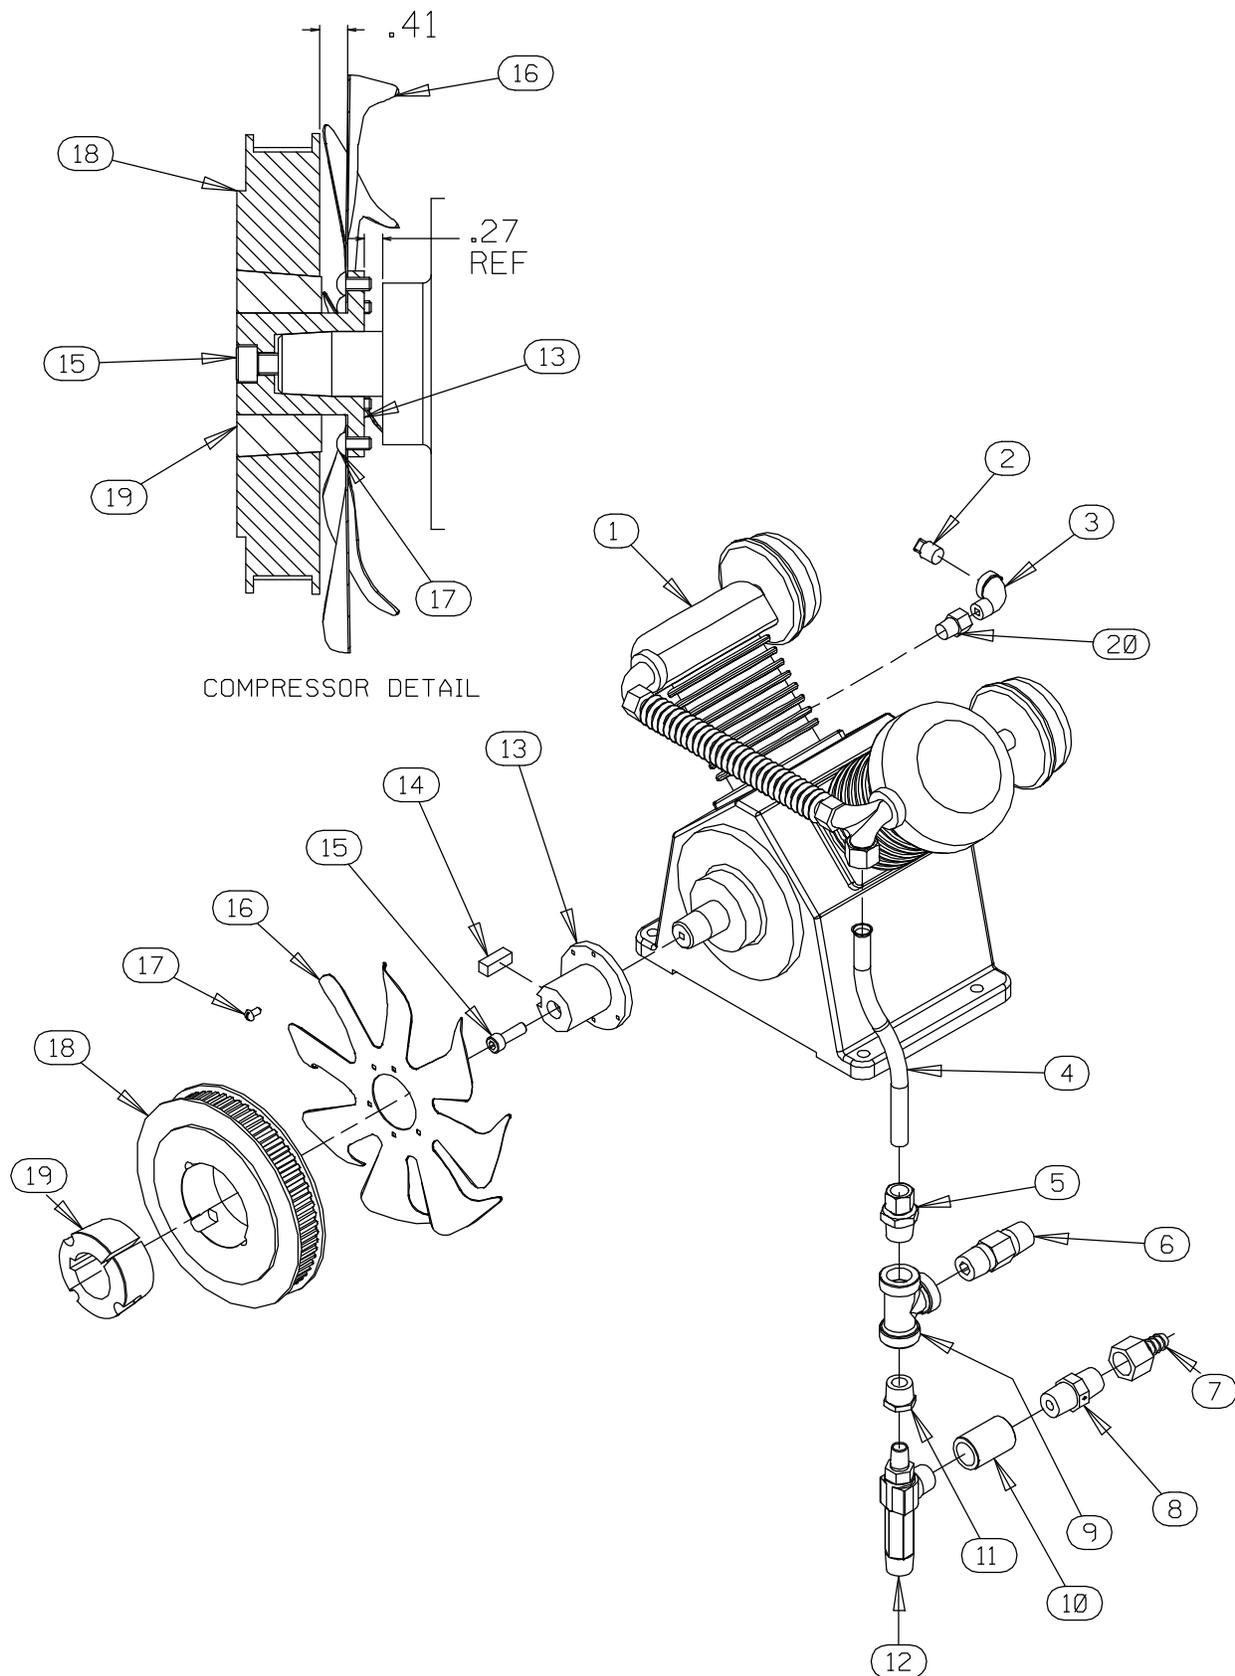

Figure 6. 46181-908 Air Compressor Assembly
Remove the hardware (13 and 14) and use a pry bar to raise the air compressor high enough to remove the spacers (36). Remove the belt (38) from the air compressor drive pulley (18, Figure 6).